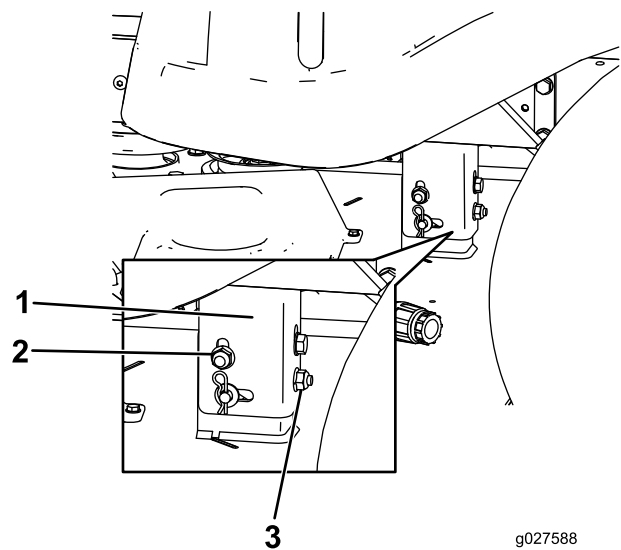

Figure 68
8. Raise or lower the left side of the mower deck by rotating the rear nut (Figure 68).
Note: Rotate the rear nut clockwise to raise the mower deck; rotate the rear nut counter-clockwise to lower the mower deck (Figure 68).